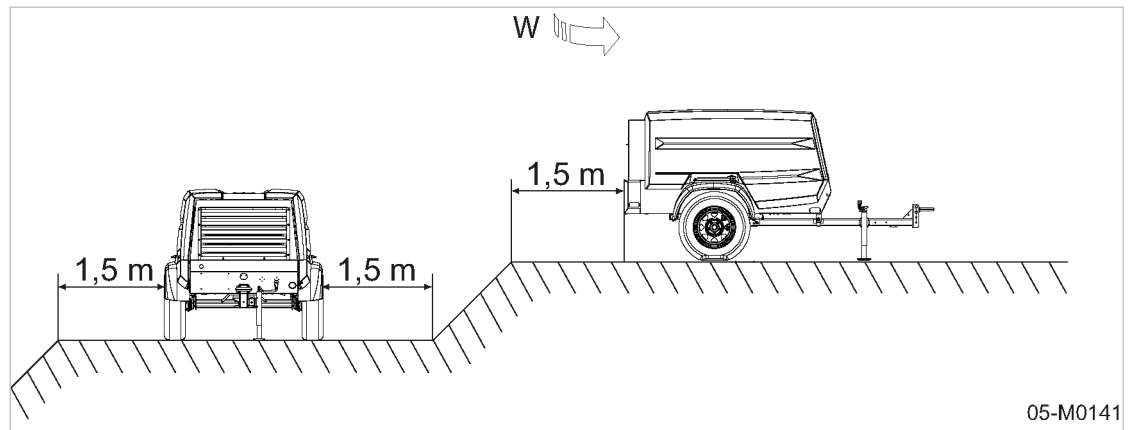

Fig. 14 Minimum distance from excavations/slopes and walls
- Do not allow exhaust gases and heated cooling air to be drawn into the compressor. Note the wind direction! (see figure 14)